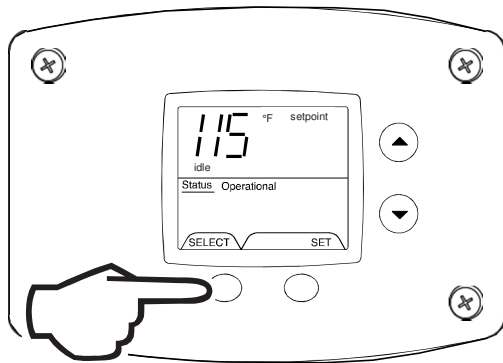

Fig. 51
1. In 'Service Mode' press the 'Select' button until 'Setpoint' is shown in the water heater display (Fig. 51).